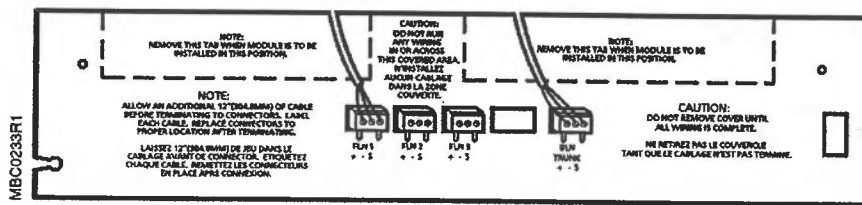

Figure 1. Temporary Cover with Pre-wired ALN/BLN and FLN Connectors Attached.
2. Remove the temporary cover (card with attached pre-wired ALN/BLN or FLN connectors) that is wrapped around the mounting rails, M-Bus rails, and C-Bus (See Figure 1). Do not remove the connectors at this time.